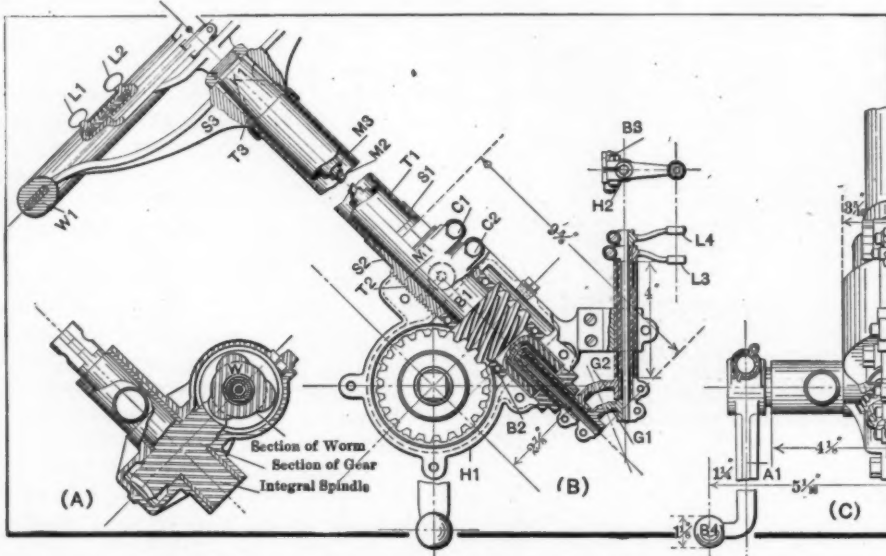

Fig. 1—Model K gear of the worm and gear type with ball thrust bearings above and below the worm and liberally proportioned plain bearings for the gear shaft
In Fig. 1 of the Model K gear reference will be made to a section of the worm and gear (A) with a view to making the point that the material used is of a fine grade of true cementing steel, and it is heat treated to render it glass hard, but the core is left in a state to resist shock. It is too frequently overlooked in this class of work that mere low-carbon steel is not sufficient for the purpose. True, it is possible to employ ordinary grades of low-carbon steel in cementing work, but when the product is finished it can not be claimed that safety is one of its properties, and when this important point is disregarded in steering gears it looks as if the greatest question is ignored. Considering (A) in Fig. 1, the worm is of the cementing steel referred to, and it is first machined to near size from bar-stock, then machined to accurate blanking size, after which the worm is hobbled, leaving "grinding finish" over the diameters of the two extremities of the integral spindle. The next step is to pack the worms in bone in a box, after which the cover is put on, and luted, to keep it tight against the introduction of any contaminating substance; also to keep the gases from the bone in long enough to cause carbon to penetrate below the surface of the metal for a suitable distance to afford the hard skin; but the fact that the metal is of true cementing stock assures that the penetration will be limited to that definite amount that is known to suffice for the purpose, leaving the core soft and dynamic.